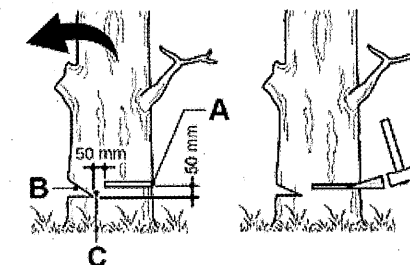

Fig. 34
Make the notch (Fig. 34, B) 1/3 the diameter of the tree, perpendicular to the direction of falls (Fig. 34). Make the lower horizontal notching cut first. This will help to avoid pinching either the saw chain or the guide bar when the second notch is being made.
1. Make the felling back cut (Fig. 34, A) at least 50 mm higher than the horizontal notching cut (Fig. 34). Keep the felling back cut parallel to the horizontal notching cut. Make the felling back cut so enough wood is left to act as a hinge. The hinge (Fig. 34, C) wood keeps the tree from twisting and falling in the wrong direction. Do not cut through the hinge.